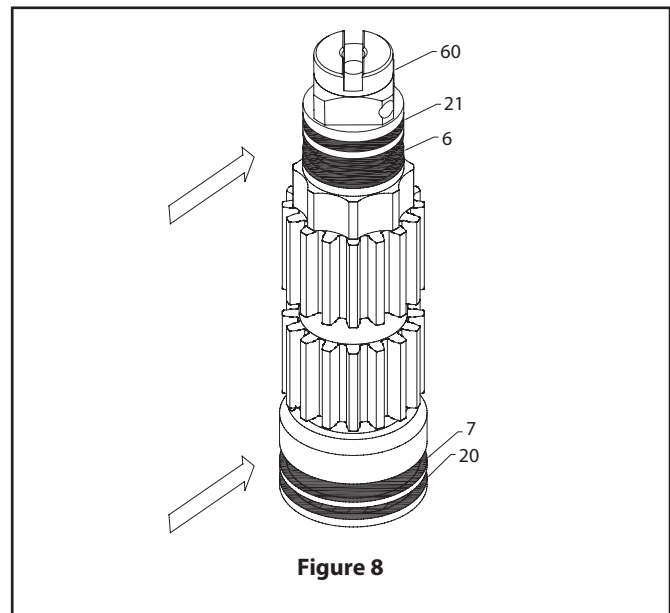
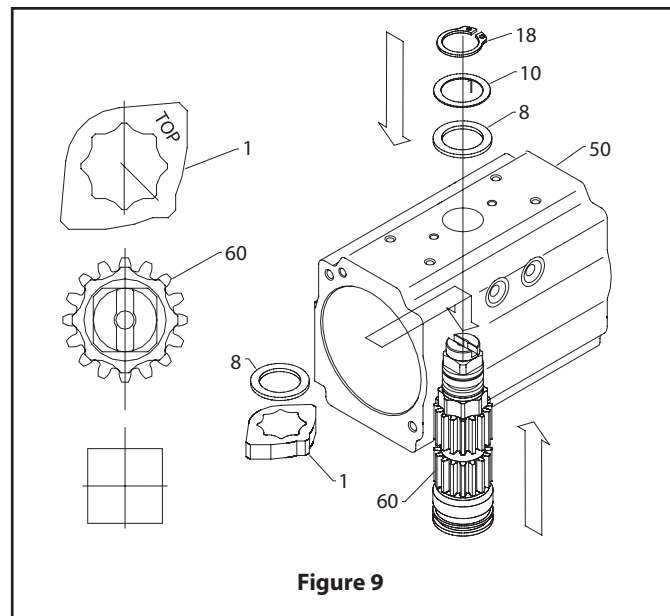

Figure 8
Figure 9
1. Drive Shaft (60) Assembly, (Figures 8 & 9):
- A. Install the top and bottom shaft bearings (6, 7) and o-rings (21, 22) onto the shaft (60).
- C. Partially Insert the shaft (60) into the body (50). Install the octi-cam (1) onto the shaft in the orientation shown in (Figure 9). The edges of the octi-cam (1) should align with the edges of the square in the bottom of the shaft (60). Insert the internal thrust bearing (8) over the octi-cam (1). Fully insert the shaft into the body (50).
- D. Install the external thrust bearing (8), thrust washer (10), and the spring clip (18).
IF THE SERIAL NUMBER OF THE ACTUATOR IS 10136023 OR LOWER THEN THE ACTUATOR MUST BE DISASSEMBLED AND THE OCTI-CAM (1) MUST BE ROTATED, SEE **FIGURE 9**, BEFORE INSTALLING THE SAFETY LOCKOUT KIT.